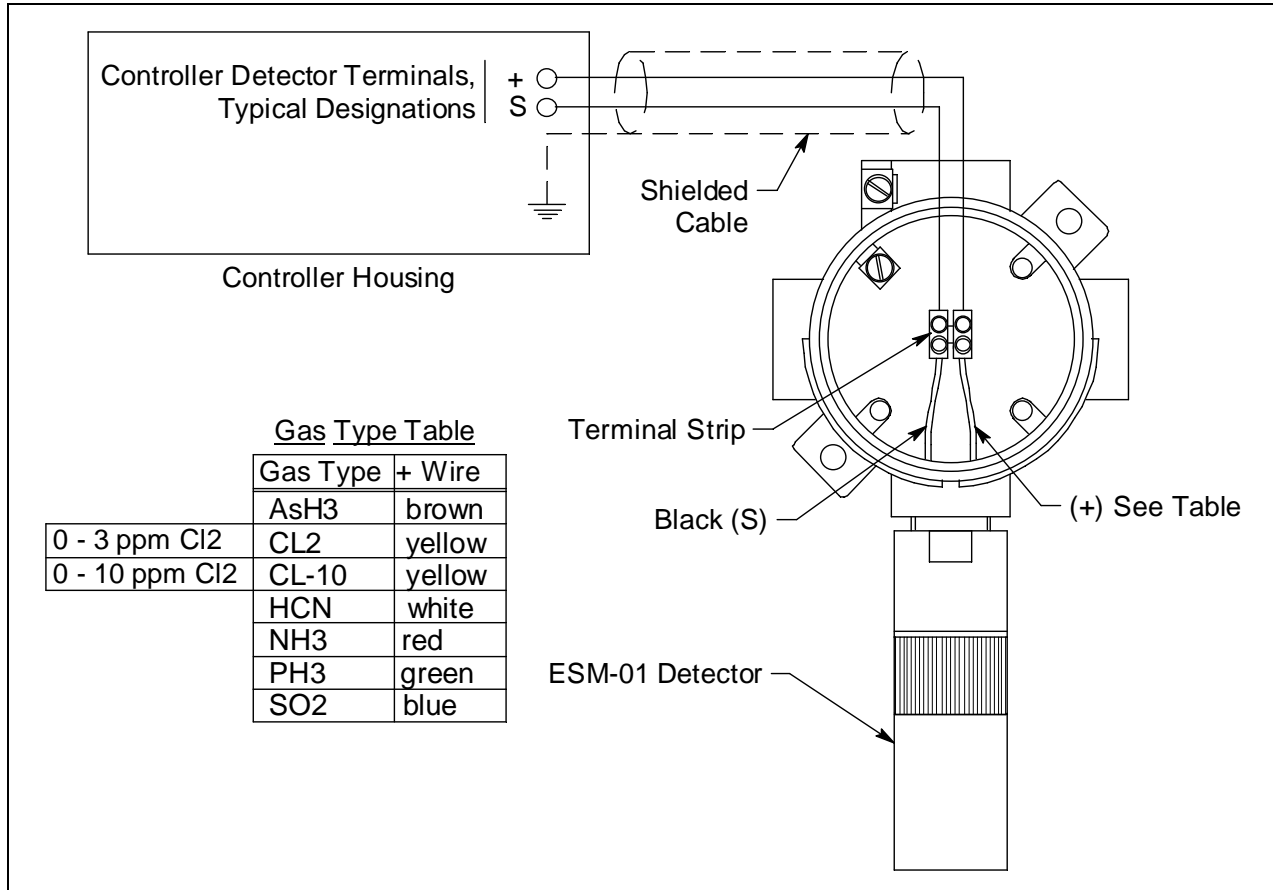

Figure 4: Wiring the Toxic Detector to a Controller
The detector housing body protects the electronic components within the housing. Use the mounting threads at the top of the housing to screw the toxic detector into a 3/4 NPT hub. Two wires extend from the top of the detector housing body. Use these wires to connect the toxic detector to a controller. One of the wires is black and one of the wires is color coded depending on the detector type. See Figure 4 on page 11 for the color code assignments. The housing body includes a 12 position connector at the bottom of the housing body. The plug-in sensor mates to this connector. A pre-amplifier located between the connector and the two interconnect wires conditions the sensor's signal before the signal reaches the controller.
If the detector is mounted directly to a controller, connect the detector's color coded and black wires to the appropriate controller detector terminals (see Figure 4 for the color coding of the non-black wire) and skip to the Startup Section.
7. If the detector is installed directly on a controller, connect the detector leads to the appropriate detector terminal strip terminals. See Figure 4 on page 11 for wiring to a generic controller. See the controller operator’s manual and the controller’s detector head specification sheet for the 65-2300RK or 65-2301RK detector for wiring specific to your controller.
If the detector is installed remotely from a controller in a junction box, connect the detector leads to the terminal block the same way the old detector was wired (see Figure 4 on page 11). See the controller operator’s manual and the controller’s detector head specification sheet for the 65-2300RK or 65-2301RK to verify the connections to the controller are correct.